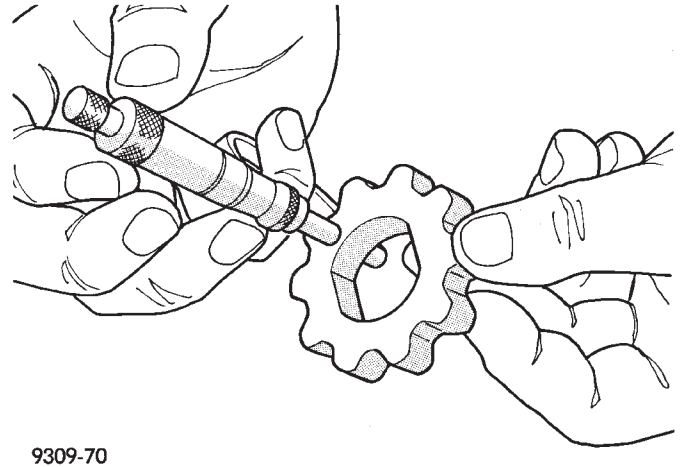

Fig. 116 Measuring Inner Rotor Thickness
(4) If inner rotor measures 14.299 mm (0.563 in.) or less replace inner rotor (Fig. 116).